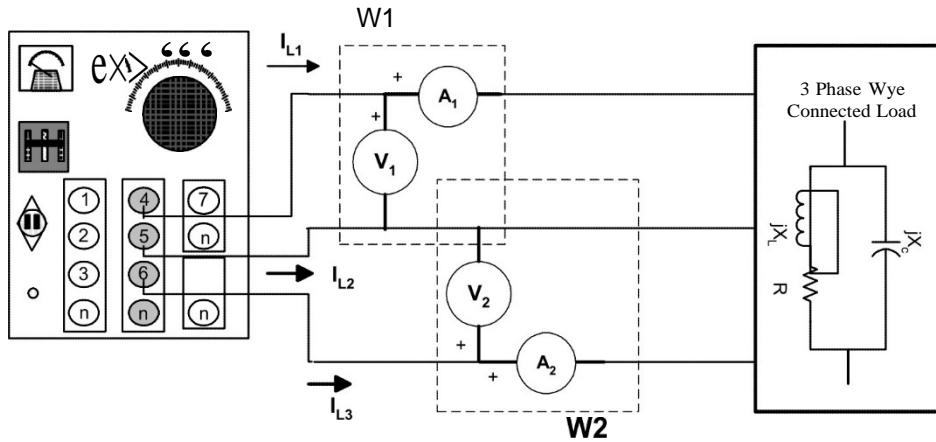

FIGURE 3.7
- Step 1: Connect the circuit shown in Figure 3.7 using  $R = 300 \Omega$   $X_L = 300 \Omega$ ,  $X_C = 400 \Omega$ . Use the fixed AC output of the power supply as your power source. Use variable terminals 4,5,6 at 120 Vac. DO NOT CONNECT THE NEUTRAL OF THE POWER SUPPLY TO THE CIRCUIT!
- Step 2: Ensure that the DAI LOW POWER INPUT is connected to the main supply, and the flat cable from the computer is connected to the DAI. Connect the DAI'S three-phase wattmeter (two-wattmeter method) configuration to measure the power consumed by the load as shown in Figure 3.7.